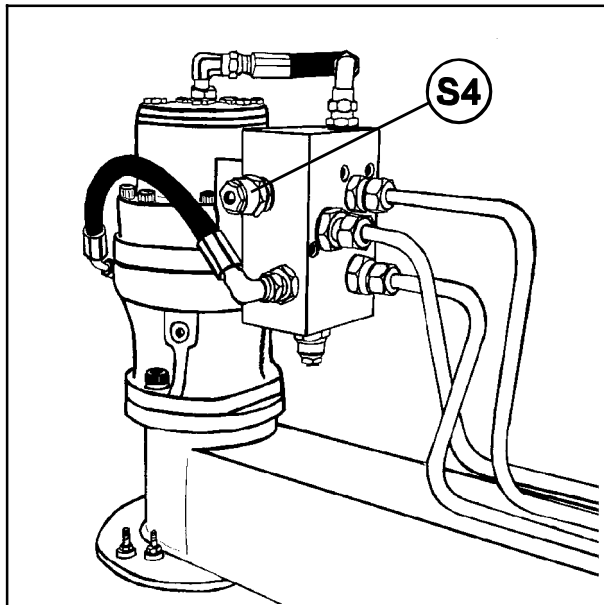

Fig. 14-4
- b) **Safety valve on the plus side.** (S4, fig. 14-4).
- b) The safety valve, (S3, fig. 14-4), can be leak, so that the oil is passing by the wrapping arm motor. Dismantle and try out if the sliding shaft can move freely.